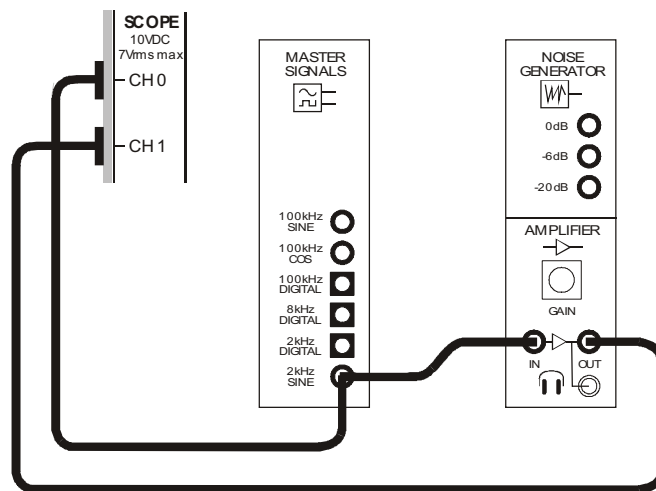

Figure 10
30. Connect the set-up shown in Figure 10 below.